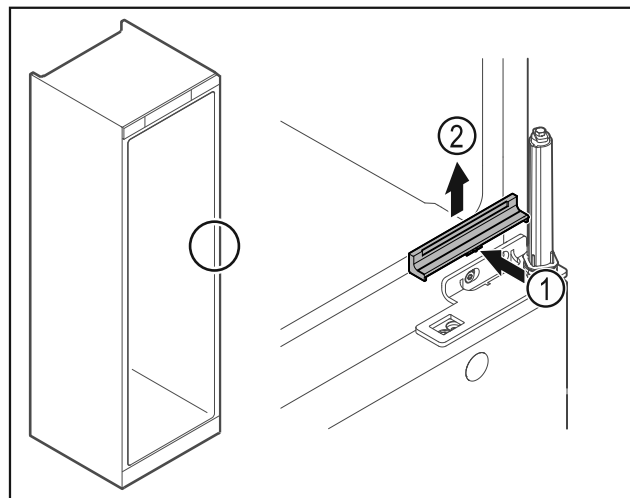

Fig. 22
- Gently press the middle of the cover Fig. 22 (1) and lift it off Fig. 22 (2).